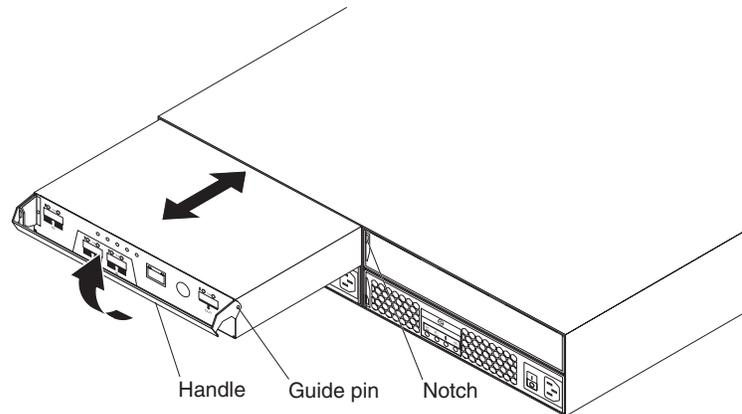

Figure 55. Removing a controller
- b. Slowly pull the handle away from the chassis to remove the controller from the bay, as shown in Figure 55.